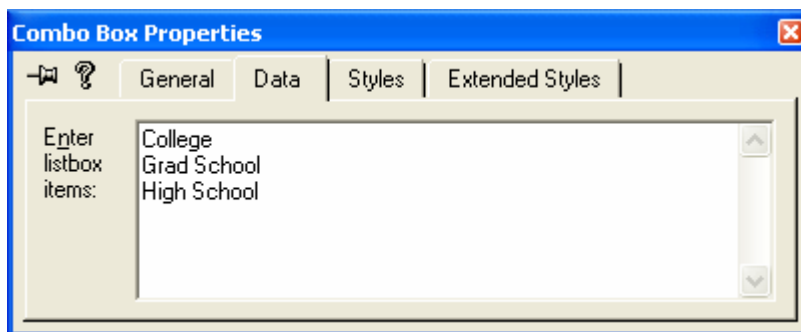

Figure 25: Modifying the **Educ** (education) combo box.
- The **Educ** (education) combo box. Change the ID to `IDC_EDUC`; otherwise, accept the defaults. Add the three education levels in the **Data** page, as shown in Figure 25. In this Dropdown combo box, the user can type anything in the edit box, click on the arrow, and then select an item from the drop-down list box or use the **Up** or **Down** direction key to select an item from the attached list box.